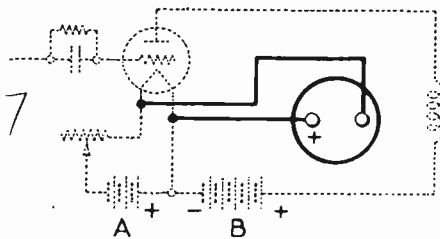

Fig. 9—Connections for measurement of filament voltage using D. C. voltmeter.
8. Voltmeters are connected in parallel across the two sides of a circuit without opening the circuit when the voltage difference between the two sides is to be measured. Voltmeters are also connected across any two points in a circuit where the voltage drop between these points is to be measured. A voltmeter may be connected between any two points whose voltage difference is to be measured, either in an open circuit or a closed circuit. Such connections are shown in Figure 9.